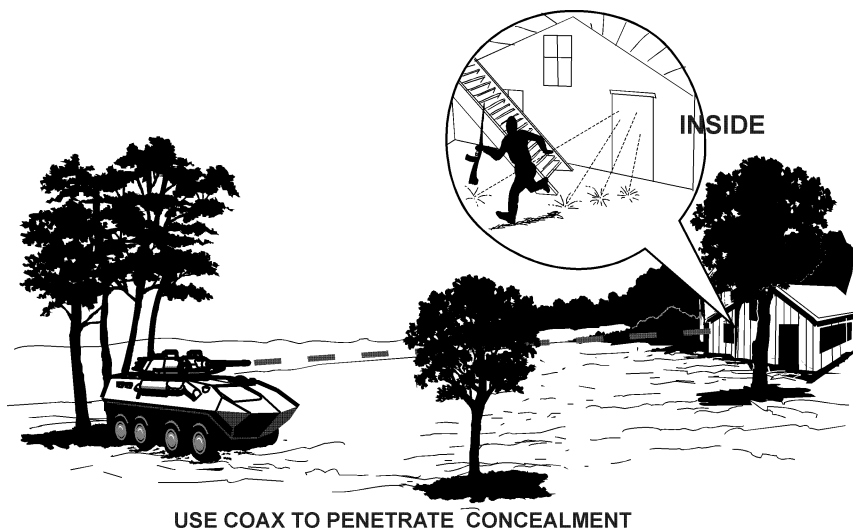

Figure 3-14. Firing Through Concealment.
(3) Firing Through Concealment. Both 7.62 mm machine guns can be used to penetrate light concealment such as small trees, hasty barricades, or lightly constructed buildings that might be used by dismounted enemy personnel. (See fig. 3-14.) Treat such concealment as a point target. Heavier concealment may need to be penetrated by 25mm main gun fire.